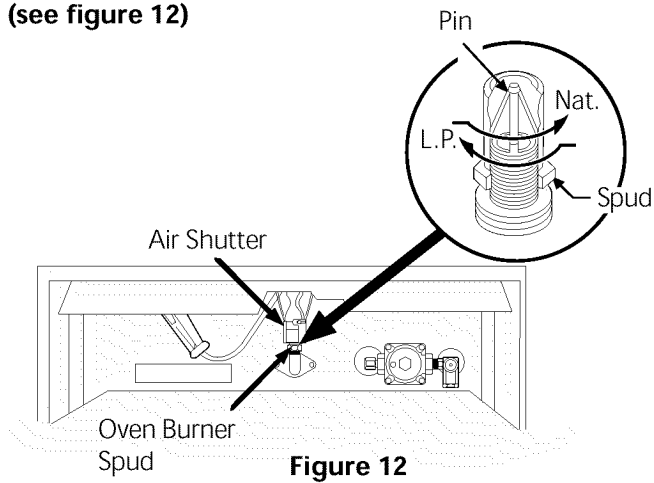

Figure 12
B. Adjust Oven Burner Orifice (see figure 12)
Using a ½" wrench, turn down the adjustable spud which injects gas into the oven burner. Spud approximately 2½ turns until snug against the LP metering pin. Do not overtighten (see figure 12).